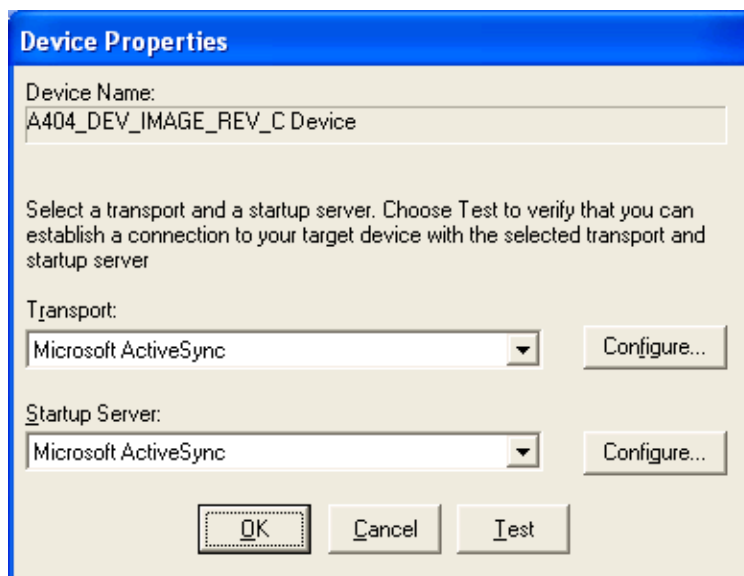

Figure 3.5: Select Microsoft ActiveSync
5. Once your platform is highlighted, click the 'Properties' button. In the window that opens, select 'Microsoft ActiveSync' for both the 'Transport' and 'Startup Server' options. Then click 'Test'. See Figure 3.5 below.